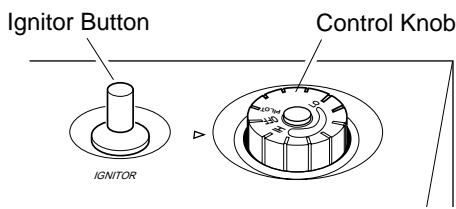

Figure 17 - Control Knob In The OFF Position
4. Wait five (5) minutes to clear out any gas. Then smell for gas, including near the floor. If you smell gas, STOP! Follow "B" in the safety information, column 3, page 11. If you don't smell gas, go to the next step.
5. Turn control knob counterclockwise to the PILOT position. Press in control knob for five (5) seconds (see Figure 17).